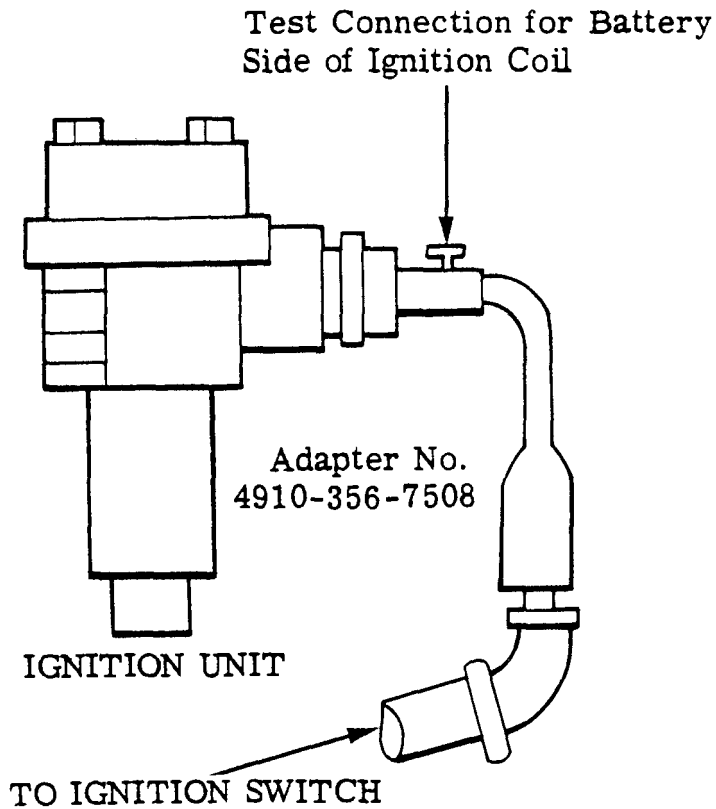

FIGURE 4.
1. Remove cable to ignition unit and connect ignition unit adapter to exposed connector socket on ignition unit. (See Figure 4.)